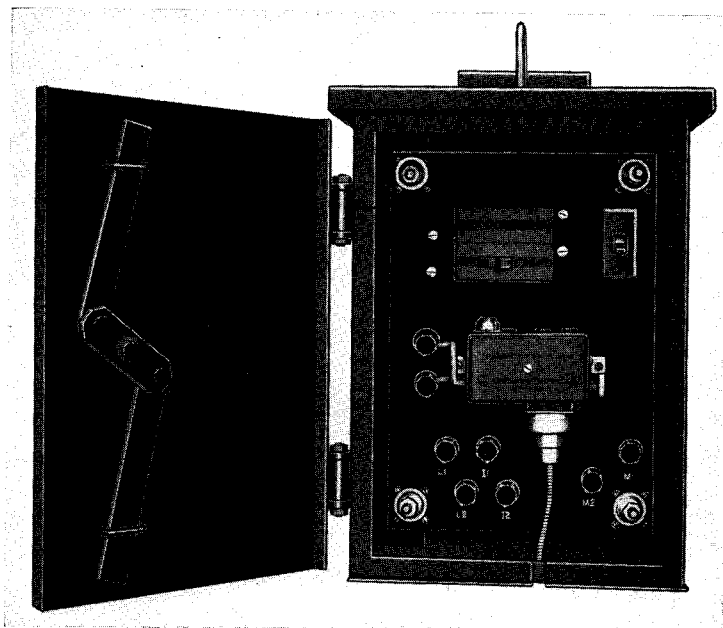

FIG. 6—TYPE A CONTROL PANEL
**Type A**—for small power, CSP and unit substation transformers where not over six single phase fans are operated from a panel, refer to Figure 6.